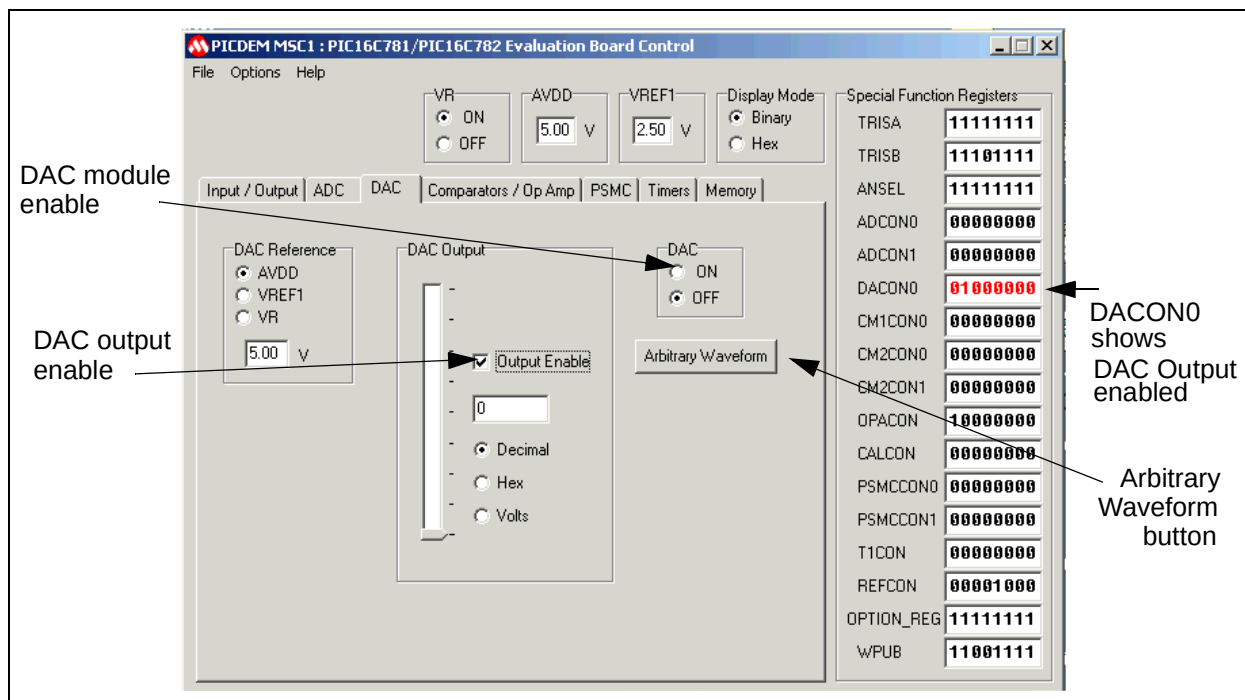

Figure 3.3: DAC Setup Initial Display
5. Select the DAC tab on the Evaluation Tool Control Panel. The Control Panel displays the DAC controls, as shown in Figure 3.3. Note the DAC output is shown enabled.
The Control Panel changes to appear as shown in Figure 3.3.